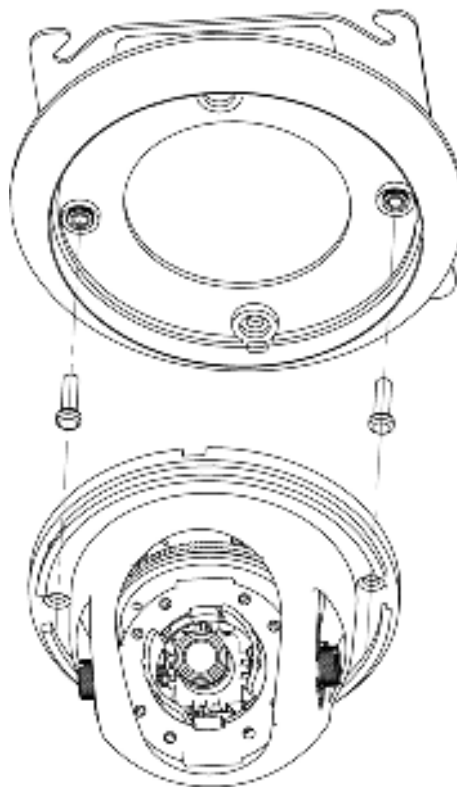

Figure 2.2.2
2. Attach Dome to DS-1244ZJ as shown in Figure 2.2.2, Please reference *Dome Camera Mounting* if needed.